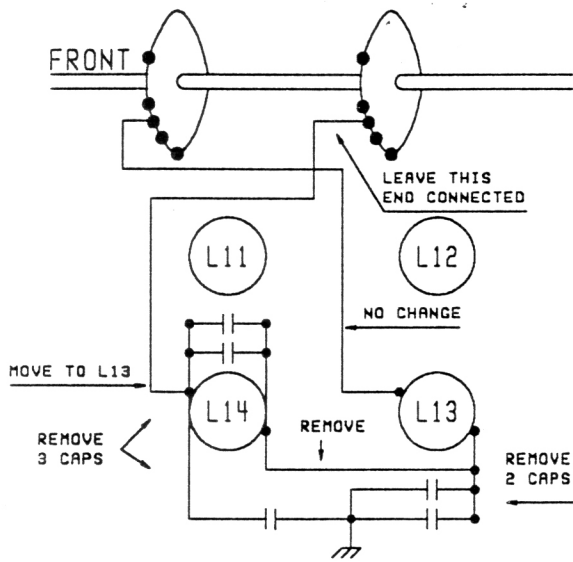

FIGURE 1
REWIRING THE 10M AND 15M COILS (FIGURES 1 AND 2):
1. Remove the (3) capacitors from L14 and remove the (2) capacitors from L13 (FIG.1). Discard the capacitors.
2. Remove and discard the jumper wire that connects L13 and L14 (FIG.1).
3. Disconnect the remaining wire from the left side of L14 (leave the other end of the wire connected to the bandswitch). Solder this wire to the right side of L13 (REFER TO FIG.1&2 FOR LEFT/RIGHT ORIENTATION).